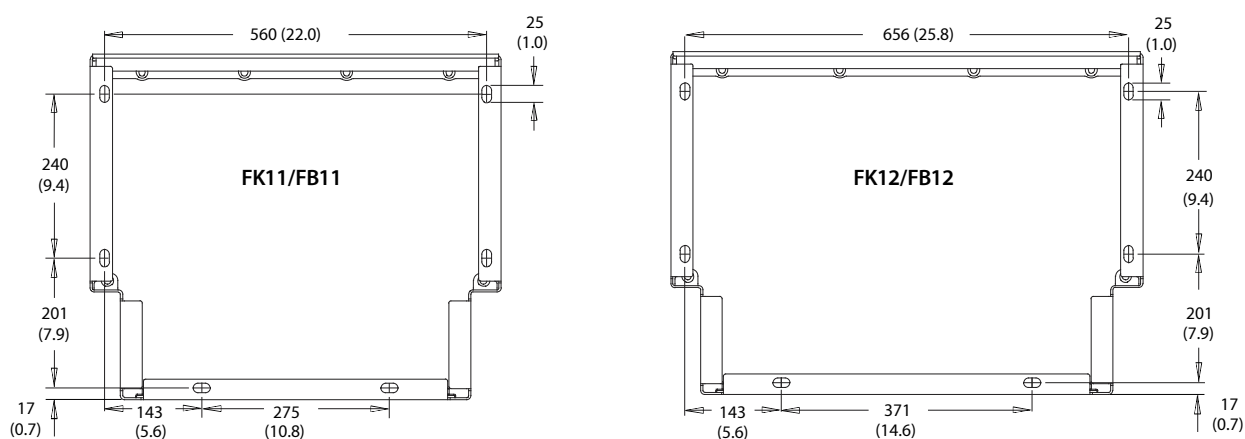

Figure 2: Dimensions for Pedestal Mounting Holes (FK11/FK12 Frames)
2. Use the dimension drawings to create 6 mounting holes for the pedestal. See Figure 2.